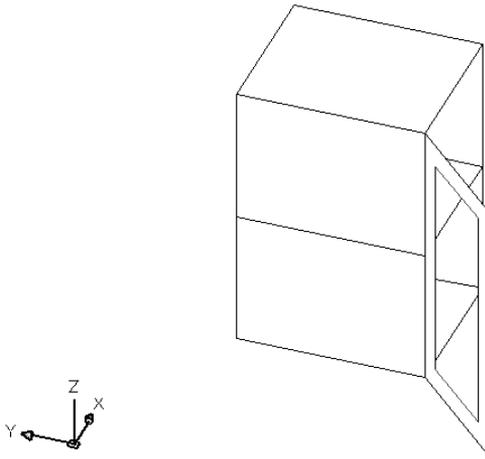

Figure 23-6: The completed kitchen cabinet, including a window in the door.
15. Save your drawing. It should look like Figure 23-6.